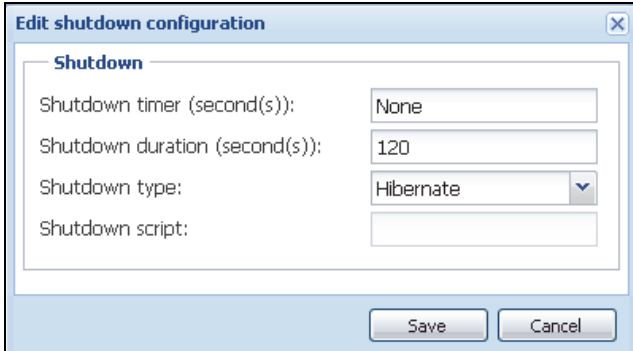

Figure 18. Edit Shutdown Configuration Dialog Box
- 3 Click **Edit shutdown configuration**.The Edit Shutdown Configuration dialog box displays (see Figure 18).